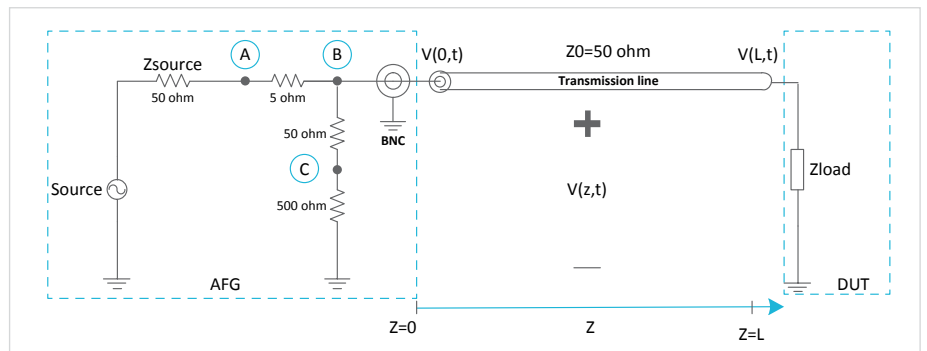

Figure 4. Test system equivalent models
**Figure 4** depicts the equivalent system models. We could simplify AFG circuits as ideal voltage source with series 50 Ω source resistors. These three resistors compose a unidirectional bridge. We acquire sampling data through it; after arithmetic calculation, we can finally get the actual load waveform. The transmission line is represented by the symbol of the coaxial cable